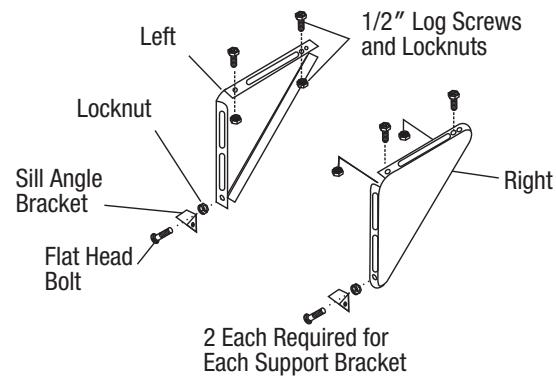

FIG. 15B
2. Assemble sill angle bracket to support brackets at the marked position. (See Fig. 15B.) Hand tighten, but allow for any changes later.